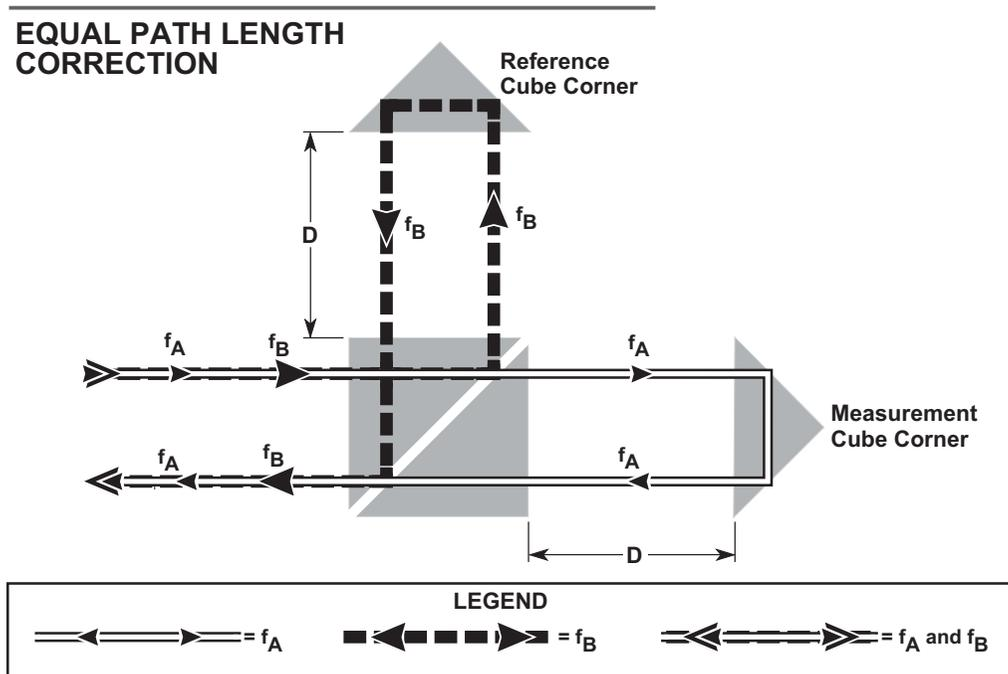

Figure 68 Equal path length correction
- Equalize the path lengths of  $f_B$  and  $f_A$  by moving the reference cube-corner a distance “D” from the interferometer. (See Figure 68). Assuming the atmospheric conditions are equivalent and the distances between the cube-corners and the interferometer are equal, this configuration would not have deadpath errors due to unequal path lengths. Take care when using this method of reducing deadpath, because any drift in the position of the reference cube-corner will also show up as a measurement error. This drift can result from non-rigid mounting and thermal expansion, for example.